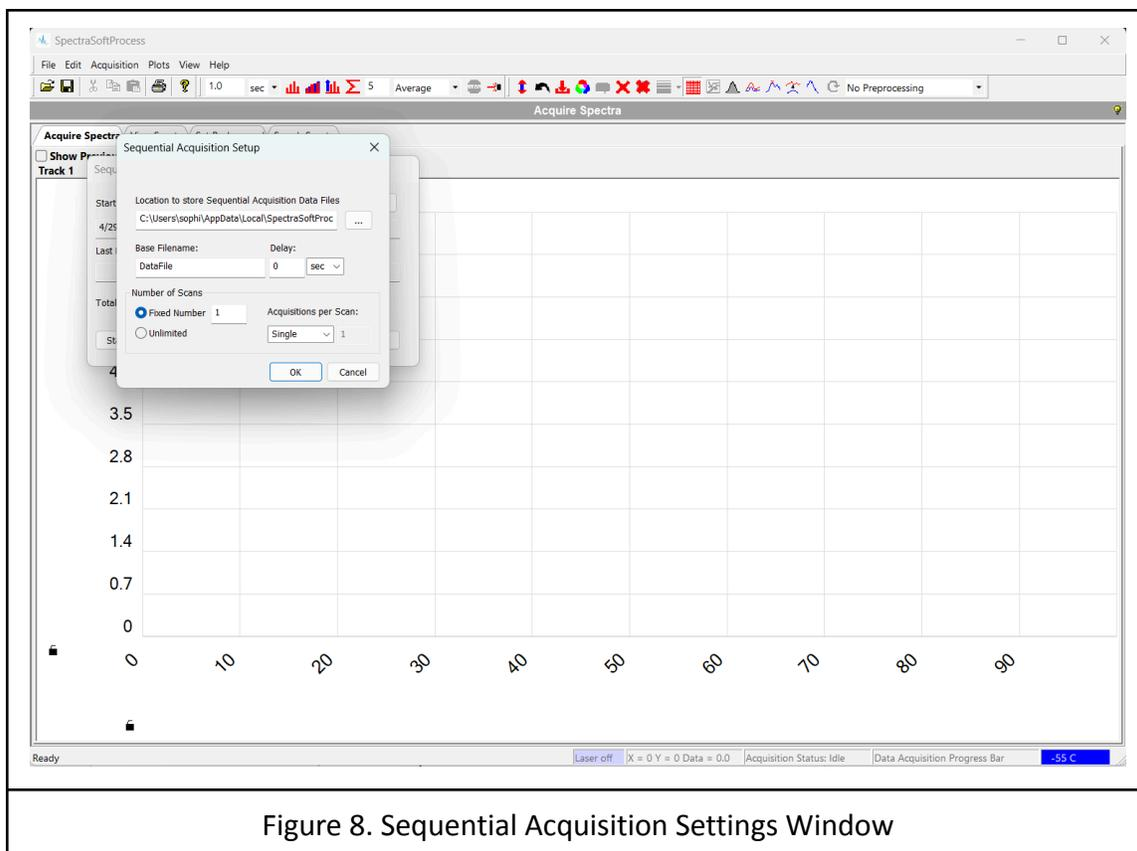

Figure 8. Sequential Acquisition Settings Window
- c. Selecting the Settings button opens the Sequential Acquisition Setup popup window as shown in Figure 8.